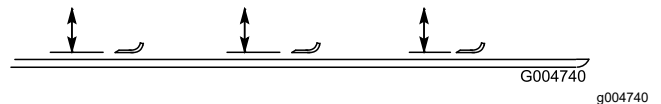

Figure 88
2. Rotate the blade until the ends face forward and backward and measure from the inside of the cutting unit to the cutting edge at the front of the blade (Figure 88).